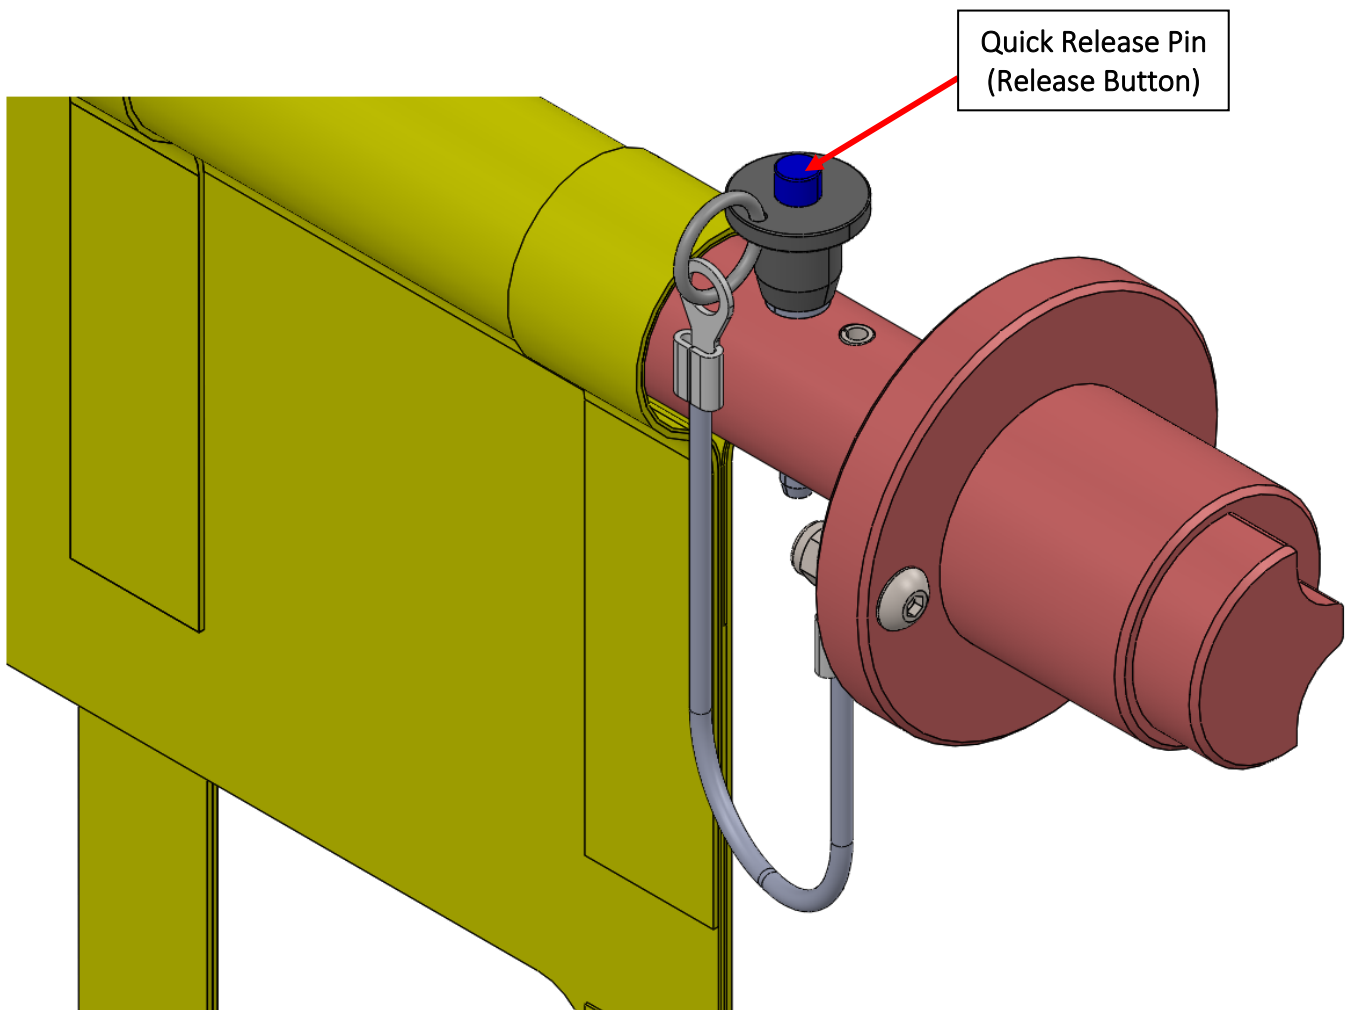

Figure 5. Top Locking Pin.
- 4.1.3 Press Quick Release Pin Release Button and remove the pin from the top tube hole as shown in figure 5.